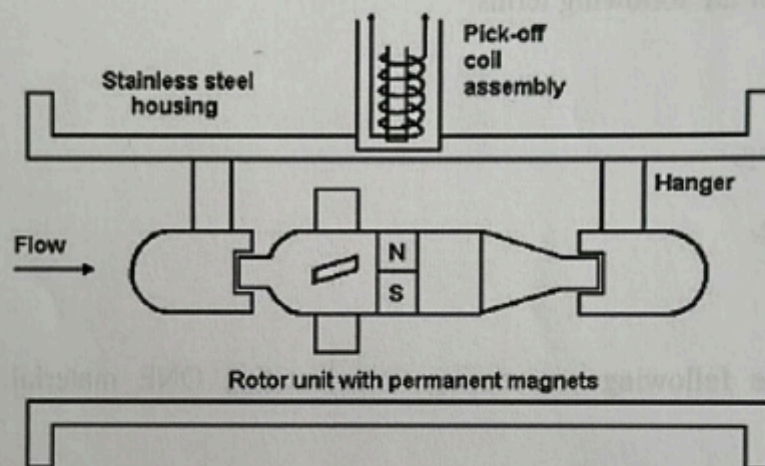

Fig Q7
With reference to the flowrate measuring device shown in Fig. Q7, describe the principle of operation, explaining how an analogue remote reading may be obtained. (10)